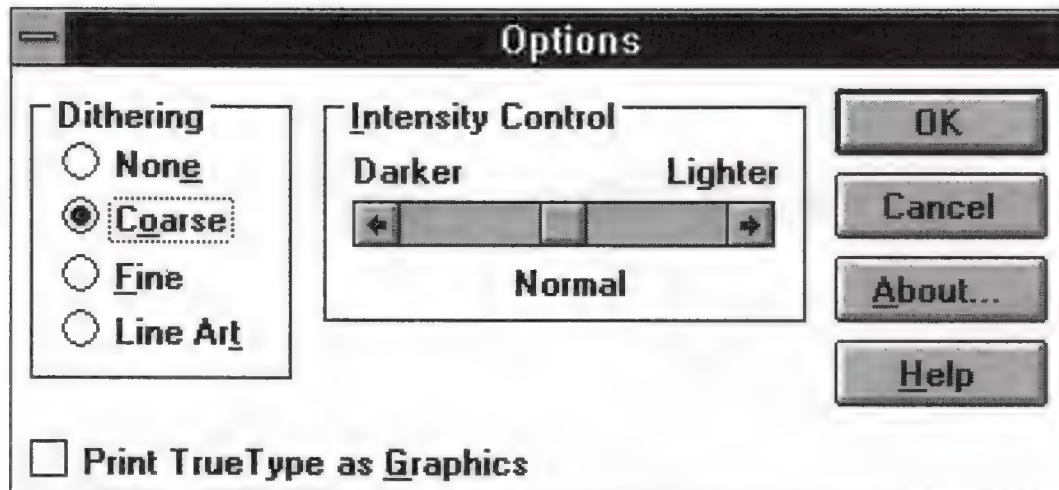

Figure 2.11 The Print Options Window for HP LaserJet and PCL compatible printers in Paintbrush
- In the Options window, select Coarse dithering, as illustrated in Figure 2.11. This allows 300-dpi (dots per inch) conversion of color images to attractive black & white reproductions on black & white laser printers.